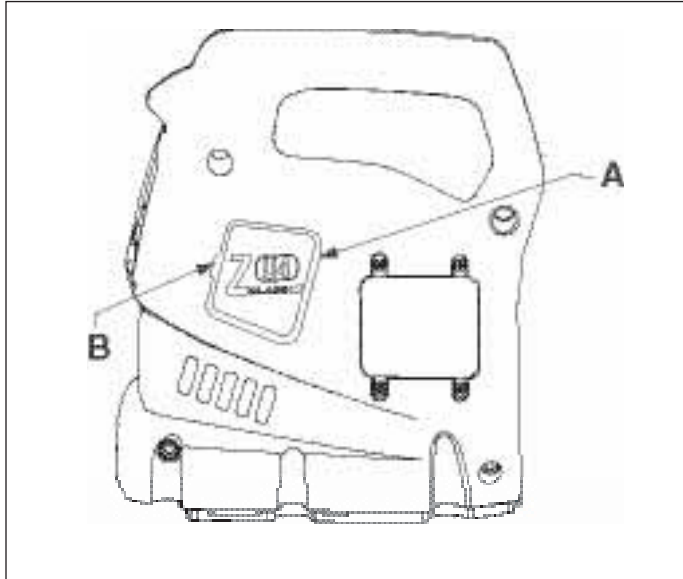

Figure 10, Brush Cap Removal
2. Remove both brush caps (A) by deflecting the brush cap latch (B) and gently prying outward (see Figure 10).